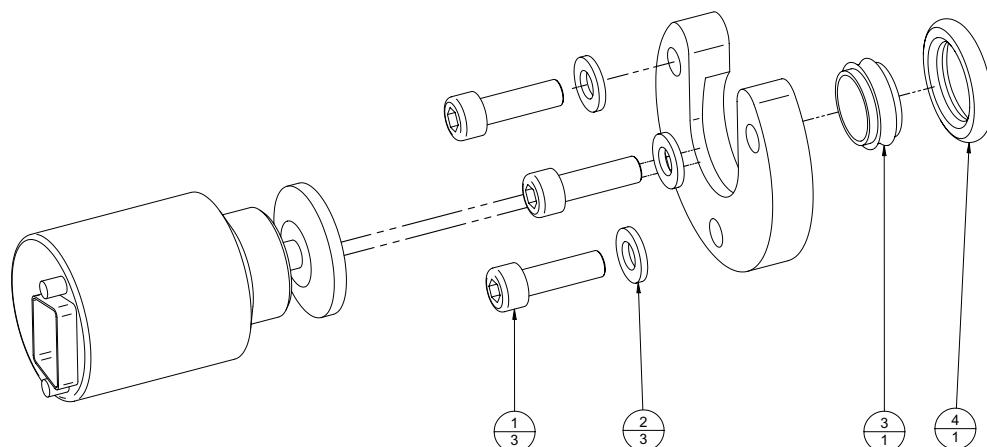

Figure 4.16 Vacuum Switch Assembly
1. Refer to Figure 4.16.
2. Remove three M6 x 20 screws (1) and washers (2) and remove the vacuum switch assembly.
3. Dismantle the assembly and remove O ring (4) and carrier (3).
6. Refit the assembly to the chamber using screws (1) and washers (2).